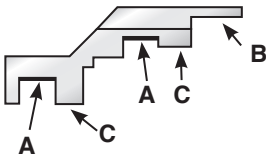

Figure 7, sizes  $\leq 2.750$  inch (70 mm)
4.4 **Rotating face support** [99] see Figures 7 and 8.